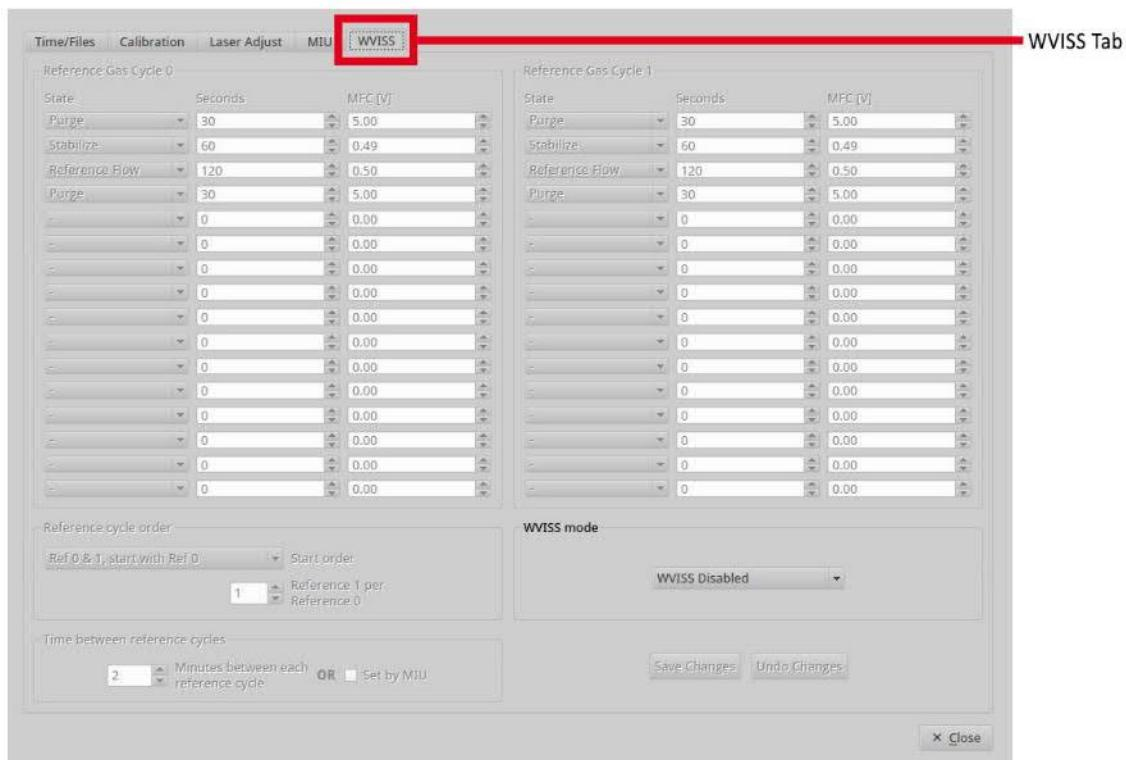
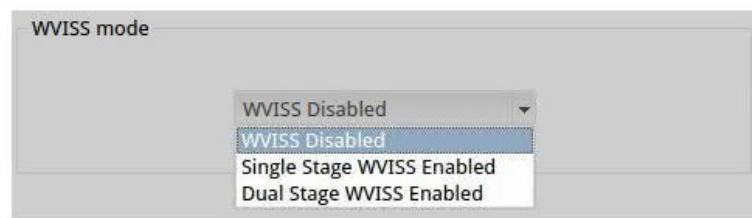

Figure 96: WVISS Setup Screen
Figure 106: WVISS Mode Drop Down Menu
The Water Vapor Isotope Standard Source (WVISS) is an ABB-LGR accessory that provides a consistent, automated flow of water vapor to the GLA132-WVIA analyzer over a wide range of H2O concentrations. The WVISS setup screen on the analyzer (Figure 96) allows for configuration and control of water vapor references that are introduced into the inlet port of the analyzer.
2. Click on the WVISS tab at the top of the *Setup menu selection bar*. (Figure 96)
12. When sampling is complete, disable the WVISS by returning to the *WVISS screen* in the *Setup panel*. (Figure 96) Within the *WVISS mode pane*, use the drop-down selection box to disable control of the WVISS. (Figure 106)